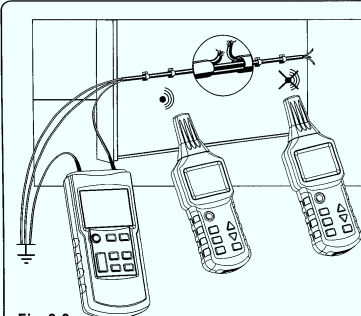

Fig. 2-2
In this example, please take a piece of a shielded cable with a cross sectional area of 1.5mm². Provisionally install 5m of this cable along the wall with nail clips at eye level as surface mounting. Make sure that the wall is accessible from both sides. Create an artificial interruption at a distance of 1.5m before the line terminal. The line terminals must be open. Strip the interrupted lead at the beginning of the light shielded cable and connect it via the test leads (provided) with hole ⑩ of the transmitter. Connect terminal ① of the transmitter to a suitable ground. All other cable leads must also be connected to the transmitter and the same ground (See Fig. 2-2).